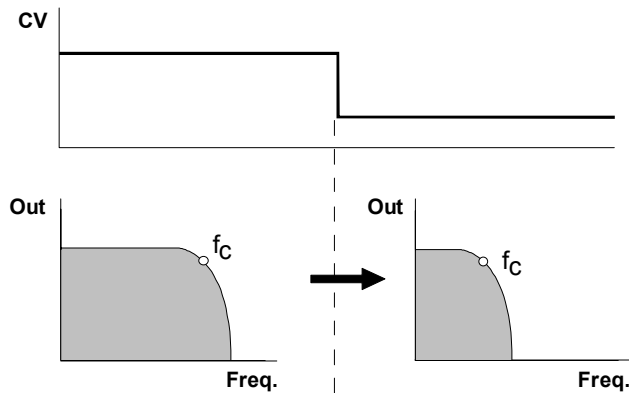

Fig. 1: White noise put through a low pass filter.
With this control you adjust the **Cut-Off Frequency** f_c , above which the filter attenuates all frequencies. At 10, the filter is fully open. The more you turn down this control, the more the high frequencies are filtered. The sound becomes mellower and less bright (see Fig. 1) until at 0 the filter is completely shut, and there will be no output signal at all.
② CV 2 • ③ CV 3
For voltage control or modulation of the cut-off frequency, use these CV inputs ② and/or ③ (see Fig. 1). Use attenuators ② and/or ③ to adjust the **control voltage level**.
④ Lev.